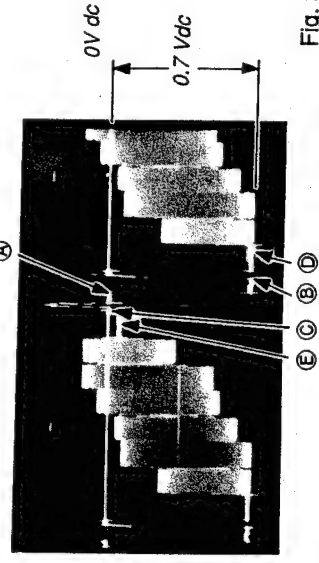

Fig. 3-2.
7. Adjust FRONT BRT VR so that (A) (black level) is 0V DC as shown in Fig. 3-2.
8. Adjust FRONT CONT VR so that (B) (100% white level) is -0.7V DC as shown in Fig. 3-2.